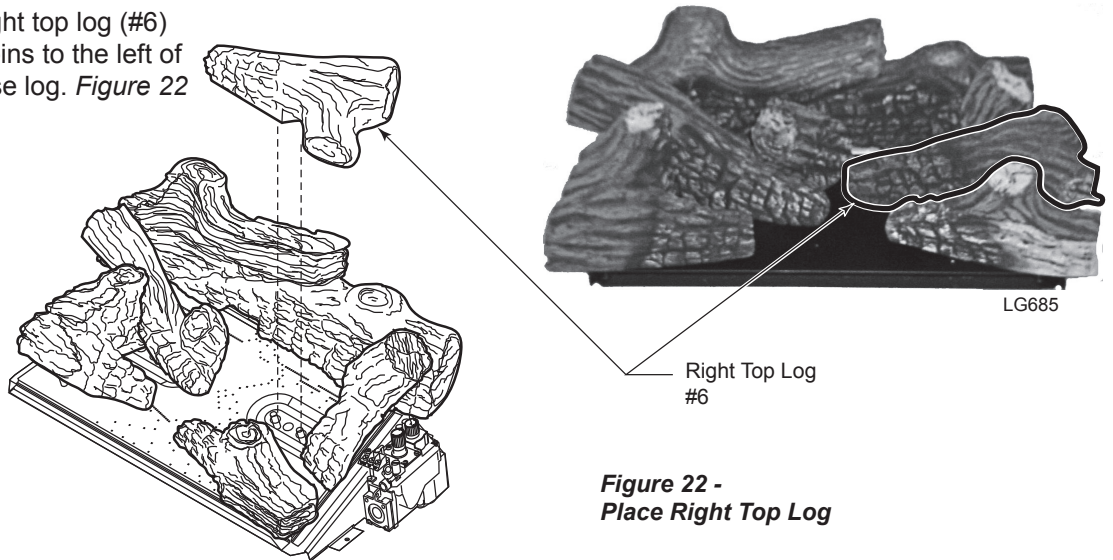

Figure 22 - Place Right Top Log
- 6. Place right top log (#6) on two pins to the left of right base log. *Figure 22*